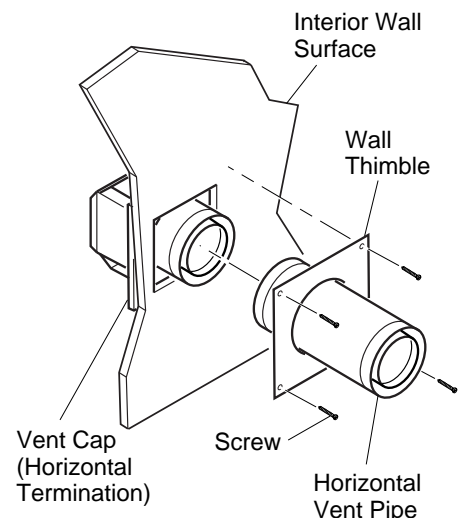

**Figure 15 - Installing Horizontal Vent Cap**
- Apply a bead of non-hardening mastic around the outside edge of the vent cap. Position the vent cap in the center of the 7 1/2" or 10" hole on the exterior wall with the arrow on the vent cap pointing up. Insure proper clearance of 1" to combustibles is maintained. Attach the vent cap with four wood screws supplied (see Figure 15). **Note:** Replace the wood screws with appropriate fasteners for stucco, brick, concrete, or other types of siding.